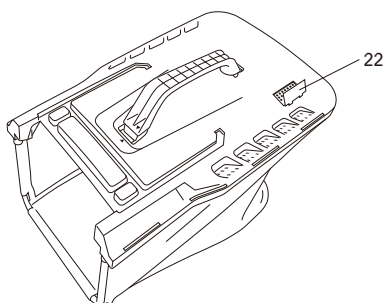

FIG.12
The grass catcher is equipped with a full bag indicator (22) (Fig. 12 & 13) that indicates when the grass catch is full.
1. When the full bag indicator (22) is opened the grass catcher has sufficient volume left to collect grass (Fig. 12).